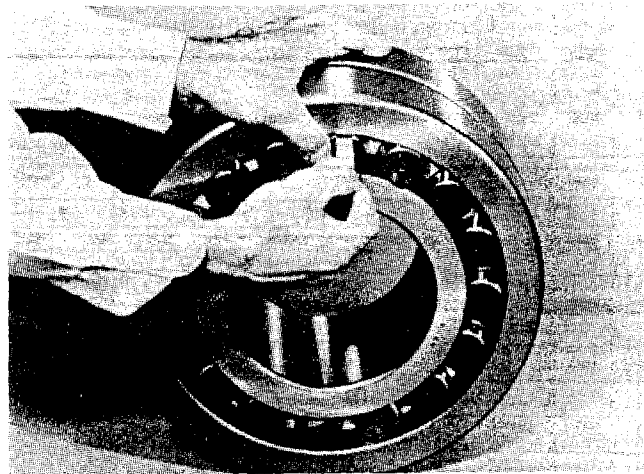

Figure 1 - Internal Clearance
2. **Measure the internal clearance of the bearing before mounting.** Place the bearing in an upright position as shown in **Figure 1**. Seat the inner ring and roller elements by pressing down firmly on the inner ring bore while rotating the inner ring a few times. Position the roller assemblies so that a roller is at the top most position on both sides. Press these top rollers inward ensuring contact with center guide flange (above 6½" only). Using a feeler gauge measure the clearance for both sides by inserting as far as possible and sliding over top of roller (Figure 1). Write down the measured clearance for use in step 3e. **NOTE:** Do not rotate bearing when moving feeler between roller and outer ring.